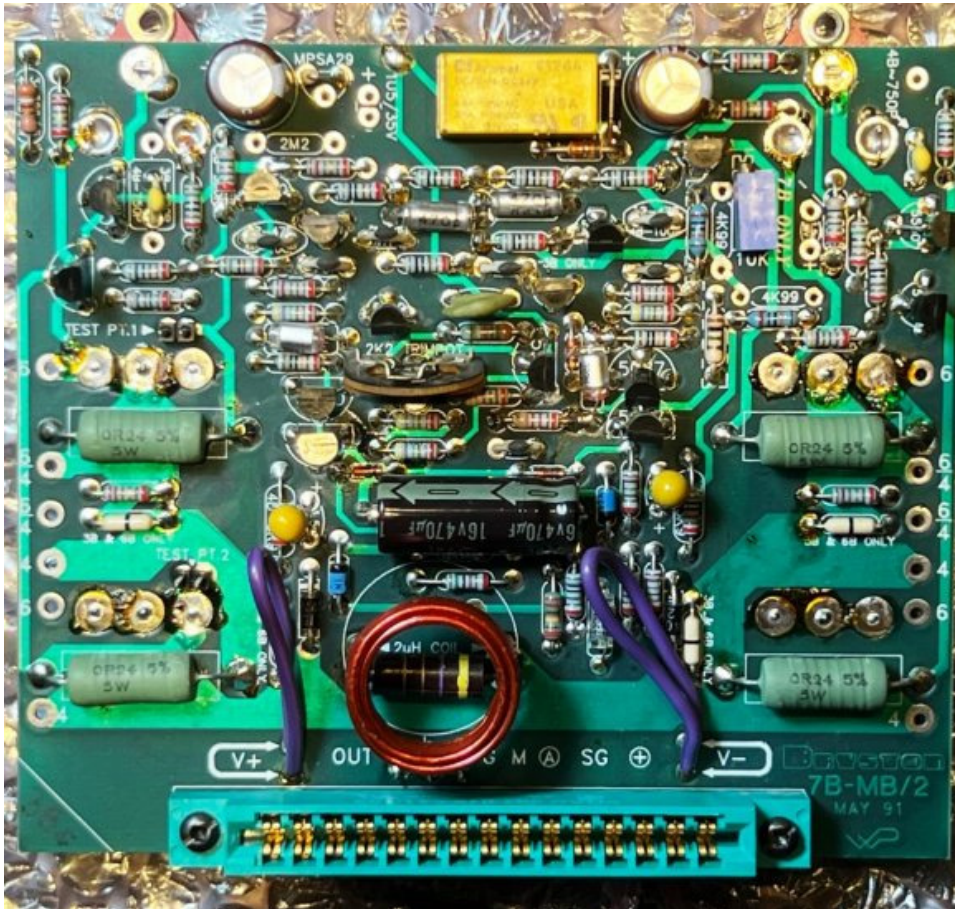

Figure 10. Two new tantalum capacitors installed on audio board (installation repeated for other board).
* Although my local supplier had 1.5 μF / 35V tantalum capacitors in stock, to install a 35V rated component in a 33V operation I felt was borderline so purchased instead higher rated 2.2 μF / 50V tantalum capacitors (my local supplier had sold out of 1.5 μF / 50V rated tantalums). Although these new capacitors were slightly larger in size it was straightforward to install them on the audio board (Fig 10).